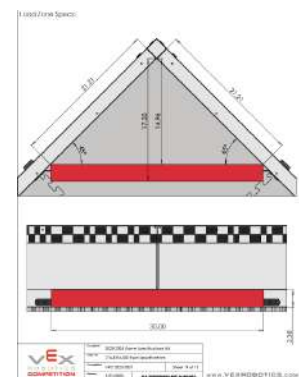

Figure 7: Match Load Zone Dimensions
- As seen in Figure 7 above, the match load zone is guarded by 2.37" diameter pipe
- Figure 7 also displays how much larger the match load zone compared to a Triball